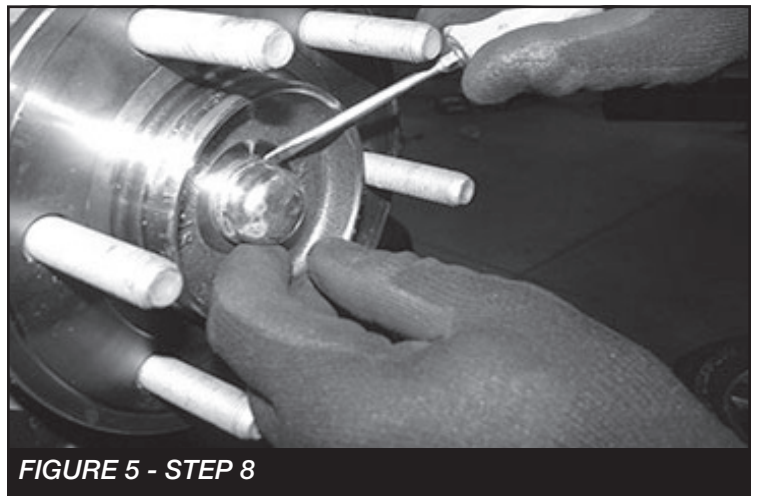

FIGURE 5 - STEP 8
8. Carefully remove the dust cap covering the hub assembly nut. Remove the C.V. bearing nut and save the nut and dust cap. Remove the dust shield and save for re-installation. **SEE FIGURE 5**